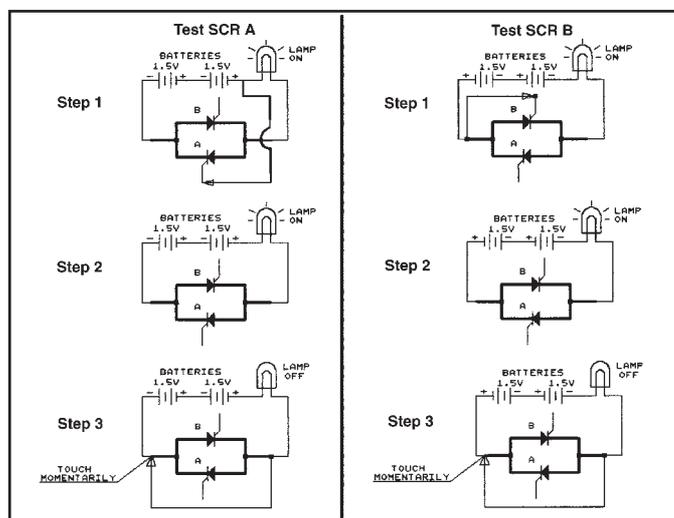

Figure 10
1. Connect two 1.5-volt batteries in series with a 3-volt flashlight bulb across the SCR contactor, as shown in **Figure 10** (test SCR A).
Now, reverse the battery pack/lamp wires to the SCR contactor and repeat the same test with the remaining SCR gate wires as shown in **Figure 10** (test SCR B).